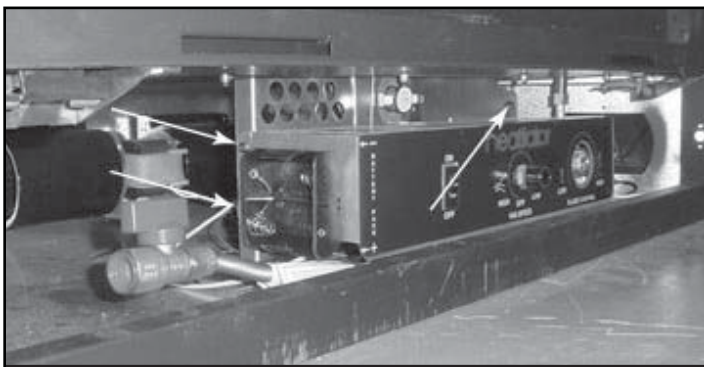

Figure 12.2 Screw Locations
- Locate and remove the two screws on the left side of the control panel and one screw on the right side. See Figure 12.2.